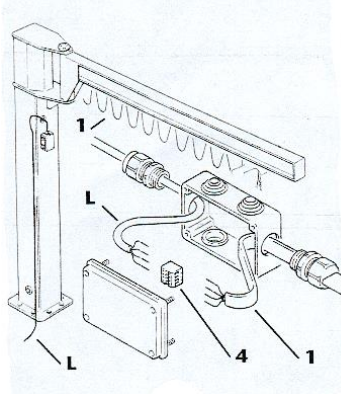

fig. 62
4. Connect the electric cable 1 and the cable of line (inserted previously in the pillar – see 4.3.3 – "GBA – CBE: Assembly of the pillar (foundation plate, counterplate, pillar)" - Pos. 2) - to the terminals 4 contained in the connector block (fig. 62).